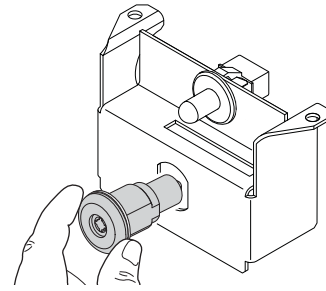

Figure 4. Lock Tumbler Installation
4. Insert lock tumbler with trim ring into front of switch bracket (See Figure 4).